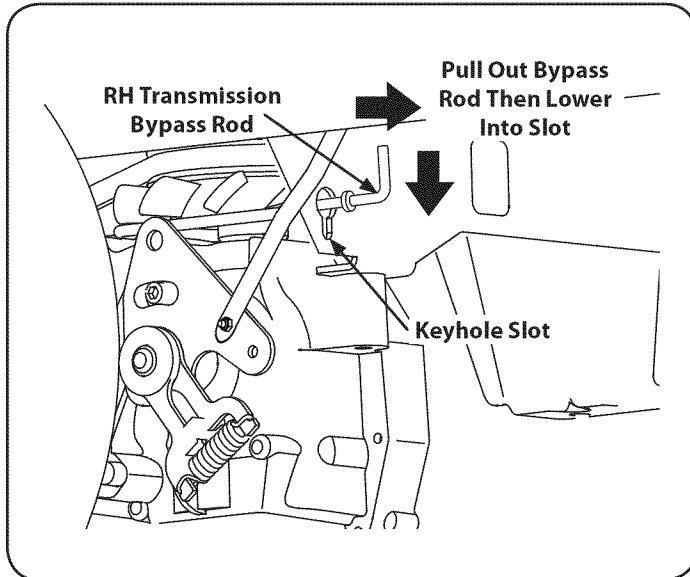

Figure 1
1. From just in front of the two rear tires, locate the transmission bypass rods. Refer to Figure 1.